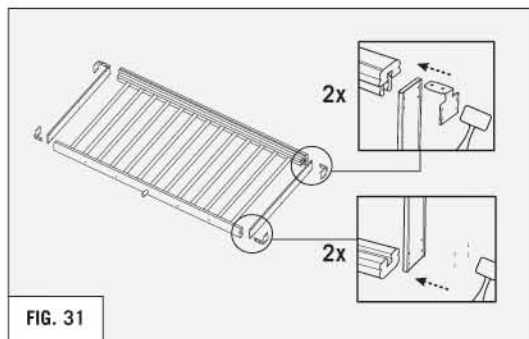

FIG. 31
5. Install metal brackets and mounting plates using a rubber mallet. (REFER TO FIG. 31)